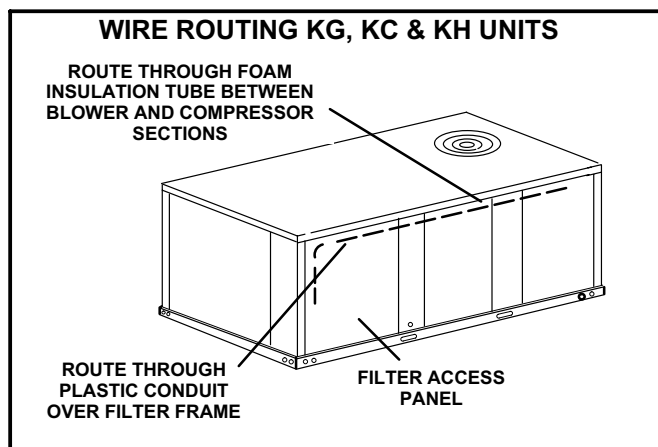

FIGURE 5
- 2 - Route harness wires to the top of the unit. Secure to existing bundle of wires and route to control area above compressor. See figure 5. Make sure wires are secured away from other components.